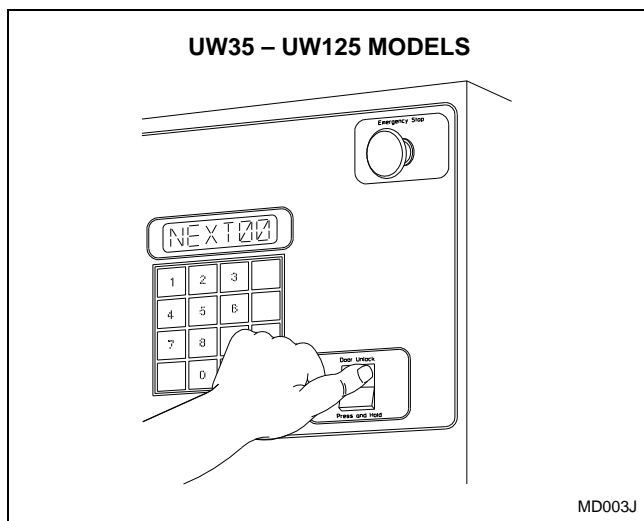

Figure 21
2. On UW35 – UW125 models, use left hand to press and hold the door unlock button located on the lower right front of the control panel. Refer to *Figure 21*.